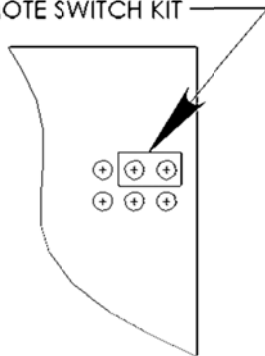

Figure 1
See figure 1, 2, and 3 for proper jumper installation.
- When the jumper is in the on position, the control board is set up to operate using the DEMA optional remote kit (See Figure 1).
JUMPER (SEE FIGURE 1 AND 2)